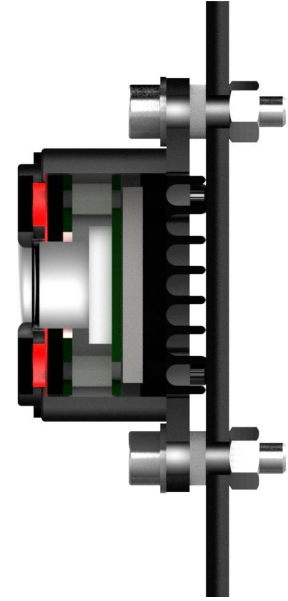

Figure 4. Front-panel mounting example
The bottom casing (flat) part includes four slots for mounting the camera using M4 screws. You can mount the Terabee 3Dcam 80x60 using the following two methods: (1) front-panel mount using the long M4 screw slots or (2) for a more discreet and integrated look use the back-panel mounting shoulder in the front side of the camera. The 3mm ledge offers users the possibility to mount the camera behind a surface (e.g panel), ideally with a 3mm thickness. See figures 4 and 5 for visualizations. Please note that mounting components (e.g. screws) are not included in the product package. For more information on mounting, please contact us at teraranger@terabee.com.